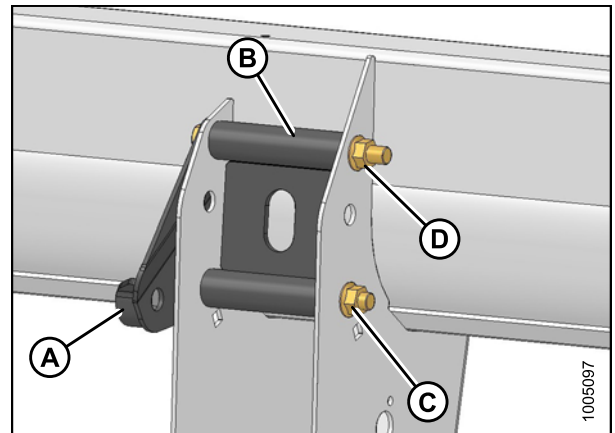

Figure 3.9: 15-ft Header Shown
2. Install right-hand upper bracket (A) and spacer (B) on the right-hand center leg as shown in Figure 3.9: 15-ft Header Shown, page 33, and install nut (C).